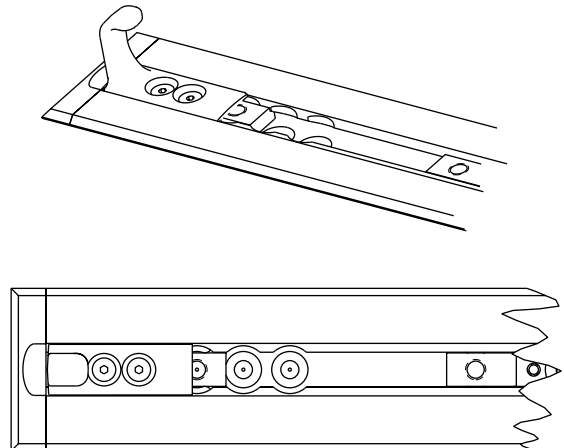

Figure 11: Secure Safety Hook
28. Using a 5/32" hex wrench, install two flat head cap screws (0001-194-000) to secure the safety hook to the floor plate assembly (Figure 11).